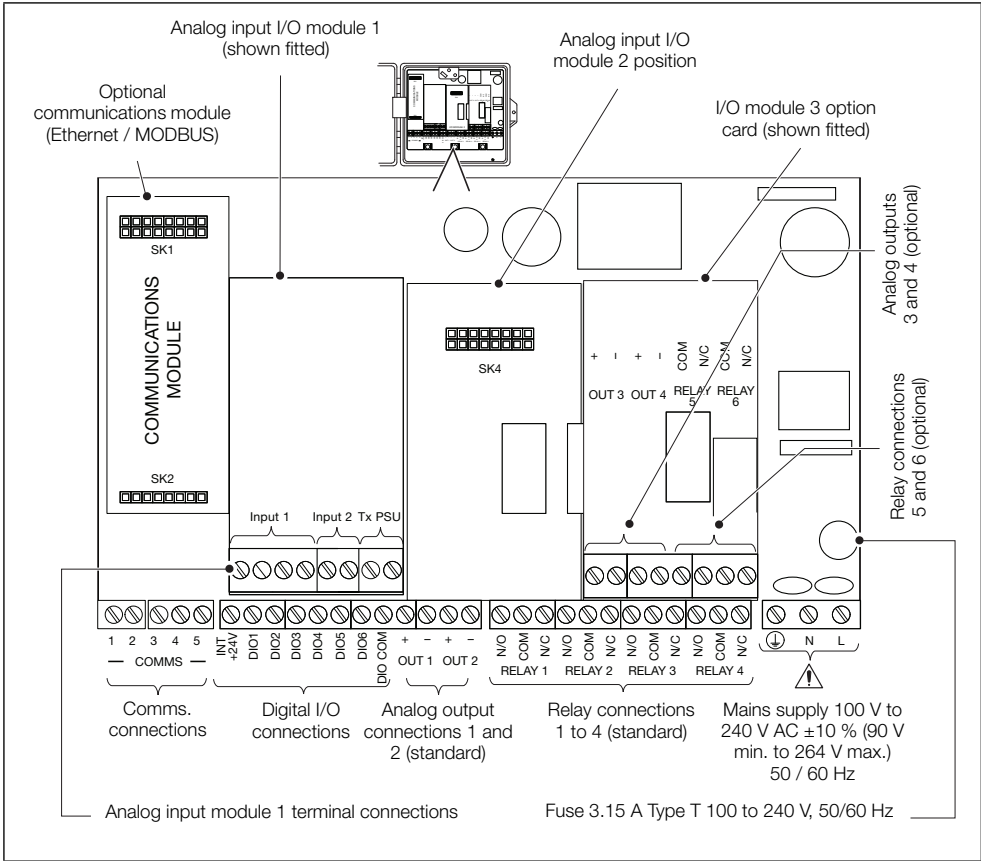

Fig. 4.19 CMF310 Electrical Connections
1. Using a pozi-drive screwdriver, turn the terminal cover retaining screw (A) counter-clockwise ( $1/4$  turn) and open the cover.
2. Turn the connection board cover plate retaining screw (B) anti-clockwise until the cover plate (C) can be removed.
3. Make connections to connection board terminals – see Fig. 4.19, page 20.
4. Refit cover plate (C) and secure it by turning retaining screw (B) clockwise until finger-tight. Close the door and turn door retaining screw (A)  $1/4$  turn clockwise to secure.